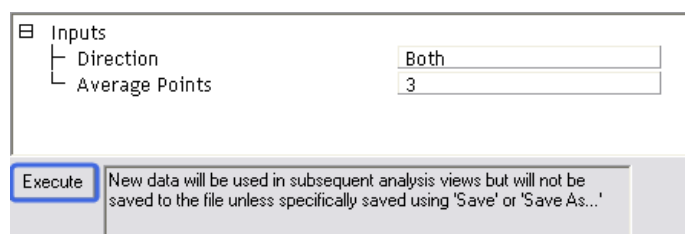

Figure 7.11a: The Boxcar filter window
3. Click **Execute** to apply the filter. See Figure 7.11a.